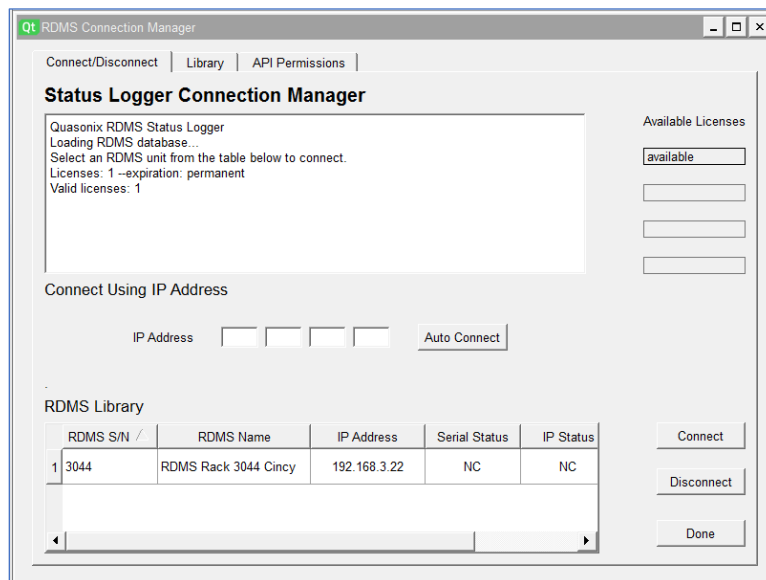

Figure 8: RDMS Connection Manager, Connect/Disconnect Status Logger Connection Manager
1. On power up, the Status Logger Connection Manager displays, as shown in Figure 8. If the window is closed, open the RDMS Connection Manager by clicking on the shortcut on your PC desktop.